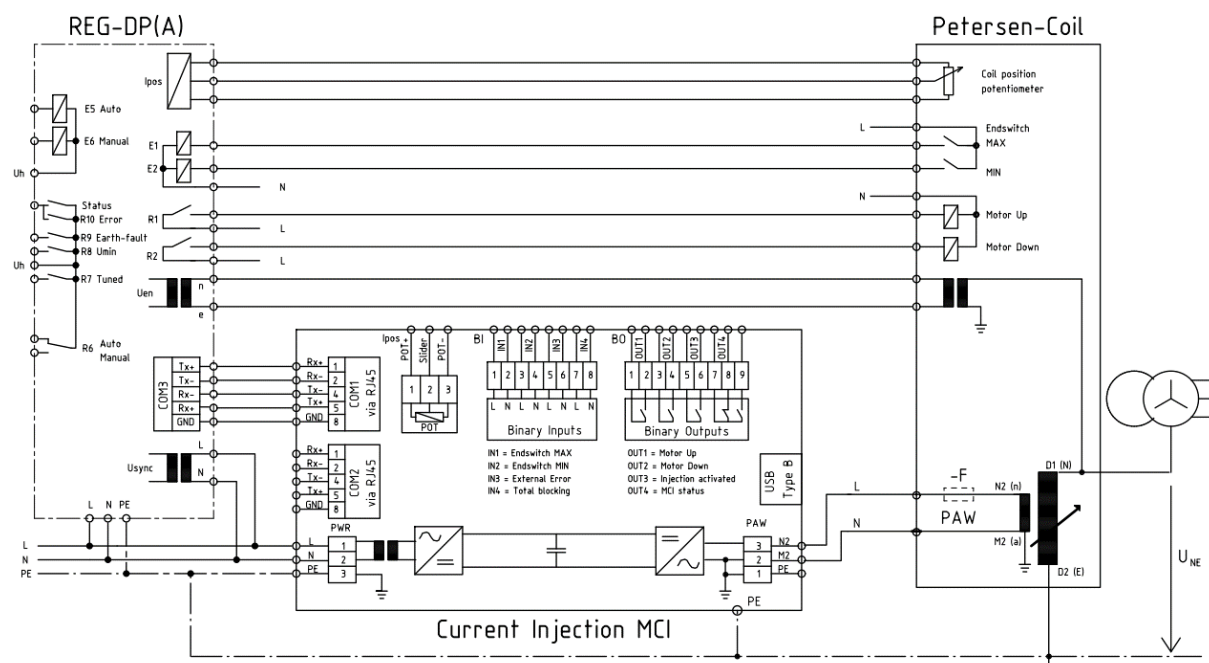

Figure 5: Mode 2 – Connection of REG-DP(A), MCI and arc suppression coil
Connectors must be connected according to the chapter 5.9. Figure 5 shows typical connection of MCI, REG-DP(A) and ASC in this mode.